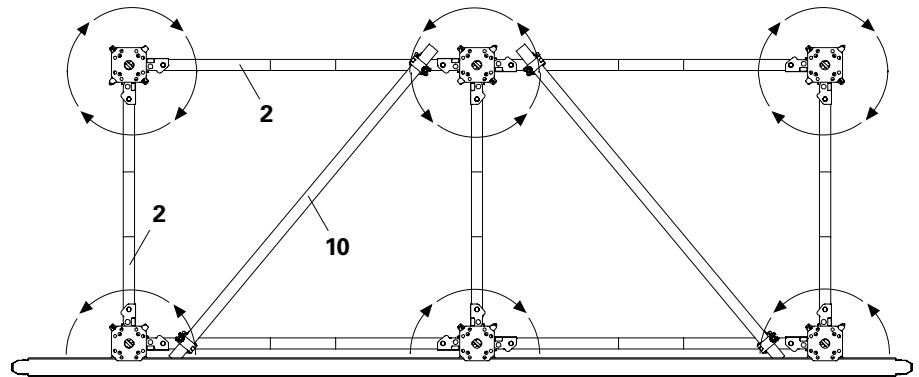

Fig. A3.06
- The assemblies are to be braced with diagonally-positioned scaffold tubes  $\varnothing$  48.3 (**10**) at around half the tower height. (Fig. A3.06)